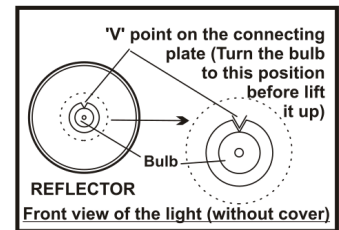

Fig.16
- Replace with a new Krypton bulb. (Fig. 16)